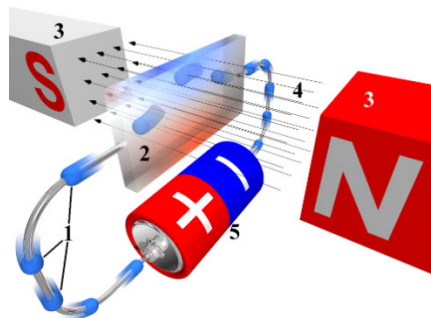

Figure 6. Hall effect diagram. Public domain, Hall_effect_A.png
The Hall effect, discovered in 1879 by Edwin Hall, is the production of a potential difference, the Hall voltage, across an electrical conductor in which electric current flows in the presence of a magnetic field. The force acting on the electrons, given by (1), causes them to drift toward one edge of the conductor, or Hall element, creating a potential difference across it, as illustrated in Figure 6. The direction of the potential difference is perpendicular to both the magnetic field and the current.